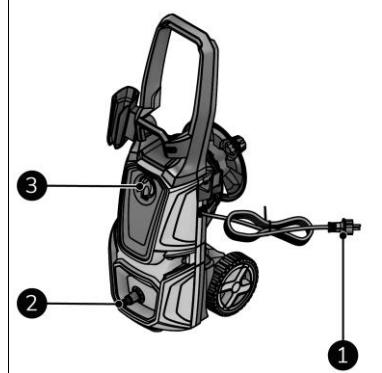

Figure 11
2. Make sure the ON(1)/OFF(0) switch (Figure 11, pos. 3) is in the OFF(0) position.
4. Connect the water supply to the device (Figure 11, pos. 2).